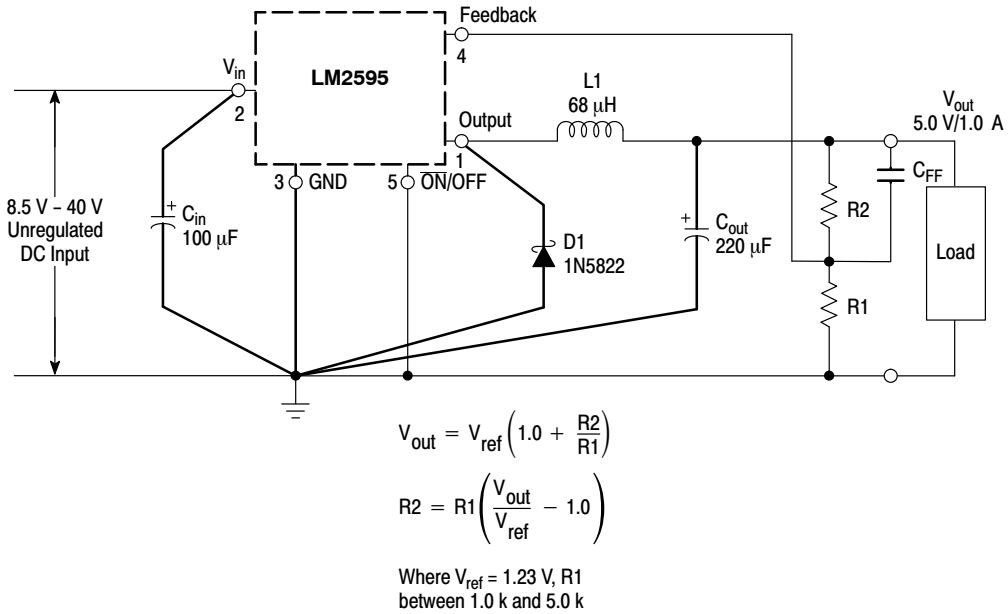

Figure 16. Typical Test Circuit
LM2595 (Note 1, Test Circuit Figure 16)
- External components such as the catch diode, inductor, input and output capacitors can affect switching regulator system performance. When the LM2595 is used as shown in the Figure 16 test circuit, system performance will be as shown in system parameters section.
TYPICAL PERFORMANCE CHARACTERISTICS (Circuit of Figure 16)
As in any switching regulator, the layout of the printed circuit board is very important. Rapidly switching currents associated with wiring inductance, stray capacitance and parasitic inductance of the printed circuit board traces can generate voltage transients which can generate electromagnetic interferences (EMI) and affect the desired operation. As indicated in the Figure 16, to minimize inductance and ground loops, the length of the leads indicated by heavy lines should be kept as short as possible.